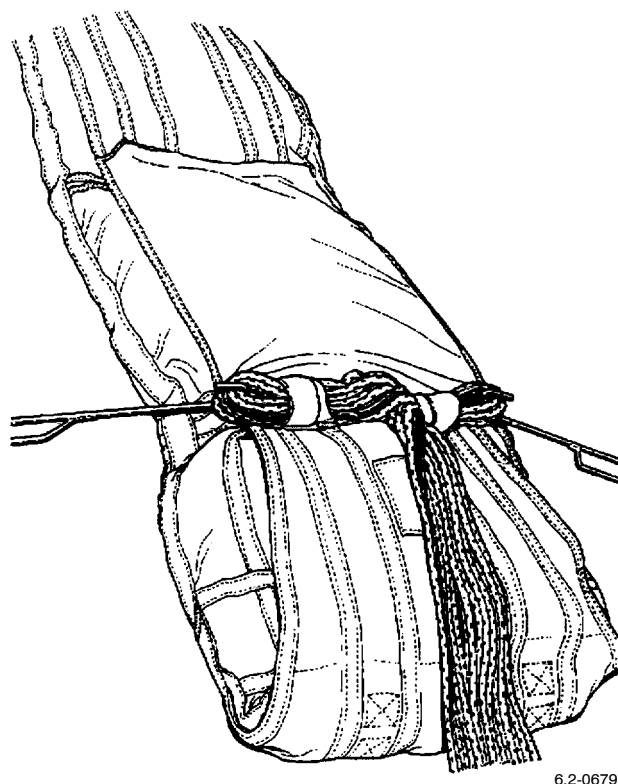

Figure 29. Suspension Lines Stowed in Bottom Flap Locking Loops
ab. Form a 3 in. bight in the suspension lines, and using the stowage tool, draw the loop thru the LH elastic and fabric loops so that about 1 1/2-in. of lines protrude beyond the outboard loop (Figure 29). Ensure that there is enough slack in the lines under the protective tunnel between this stowage and the previous stowage. This will prevent withdrawal of the lines from either stowage due to flexing of the sleeve during installation into the parachute container. (QA)
ac. Form a 3-in. bight in the suspension lines and draw the bight thru both the RH elastic and fabric loops. Make sure that about 1 1/2-in. of lines protrude beyond the outboard loop (Figure 29) and that the portion of lines between the stowages is taut. (QA)